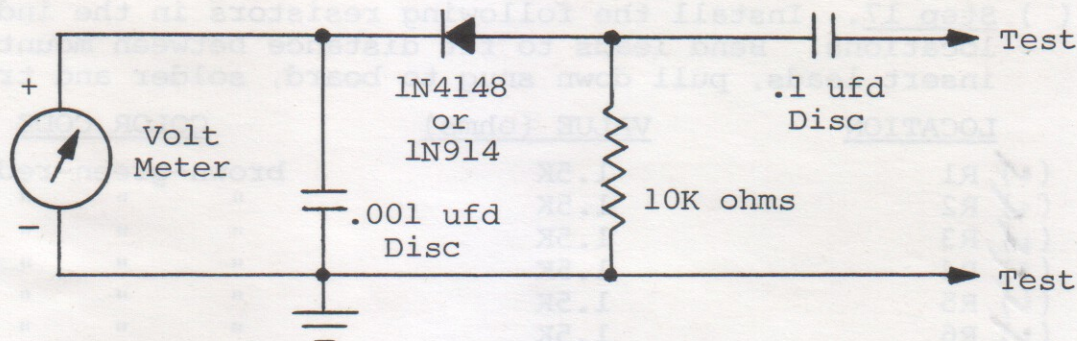

Figure 3-3. Test probe for Steps 16B and 25B.
- () Using the test probe shown in Figure 3-3 on Page III-16, set meter to DC volts and make the following measurements:
The probe shown in Figure 3-3 can be made using parts supplied with your Sol-PC kit. Since these parts will be used later in the Sol-PC assembly, DO NOT shorten the leads or otherwise alter the components. Assemble the probe using tack soldering technique.